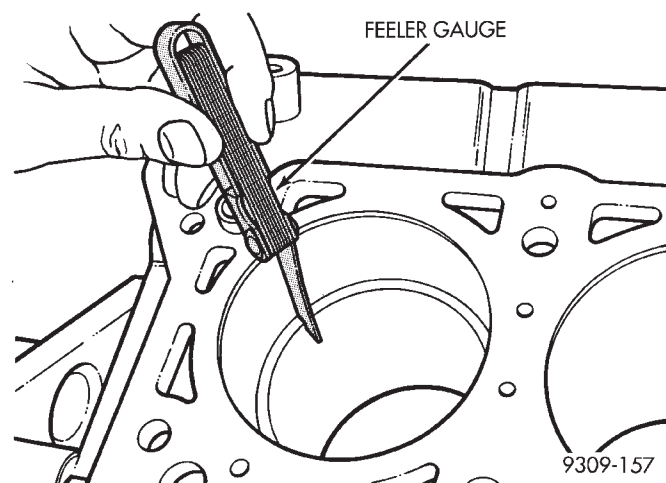

Fig. 7 Check Gap on Piston Rings
(1) Wipe cylinder bore clean. Insert ring and push down with piston to ensure it is square in bore. The ring gap measurement must be made with the ring positioning at least 12 mm (0.50 inch.) from bottom of cylinder bore. Check gap with feeler gauge (Fig. 7). Refer to Piston Ring Specification Chart.